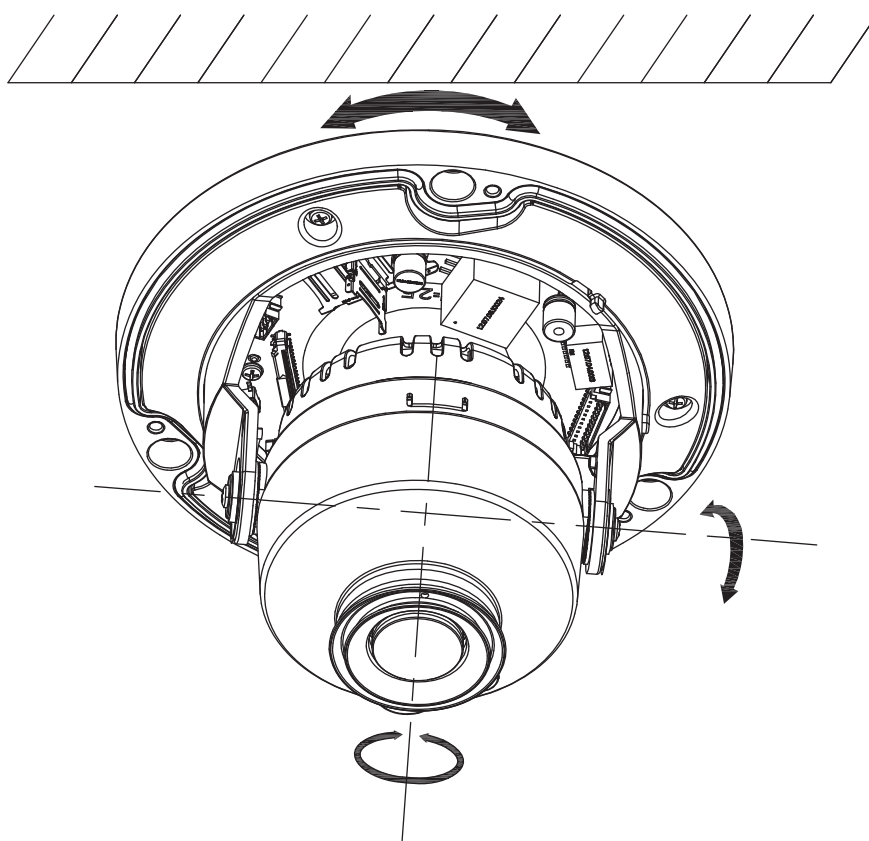

Figure 3-2
- Step 1** Find the mounting template sticker from the accessory pack and stick it to the mounting surface ①.
- Step 2** Drill screw holes (and the cable outlet hole if it needs to go through the mounting surface) on the mounting surface as indicated on the mounting template, then insert expansion bolts ② from the accessory pack in the screw holes.
- Step 3** Loosen the three locking screws ⑤ on the dome ⑥ with the supplied wrench ⑦ and take the dome ⑥ off.
- Step 4** Adjust the location of the pedestal ③ according to cable outlet requirement (top out or side out), then pull the cable out through mounting surface or the side wire tray. Align the screw holes on the pedestal ③ to those on the mounting surface, then put in and fasten the supplied self-tapping screws ④ to attach the device to the mounting surface.
- Step 5** Connect the camera to power source and the XVR device, and the live view screen will be displayed. Aim the lens to the ideal angle and adjust the focus until you get clear image. See Figure 3-2.